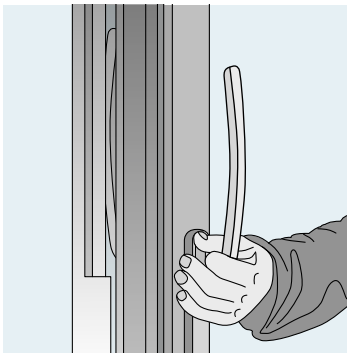

Figure 1
2. Grip the handle and move the door toward the closed position, while holding it back in the open position. This prevents marks on the mullion (figures 1 and 2)